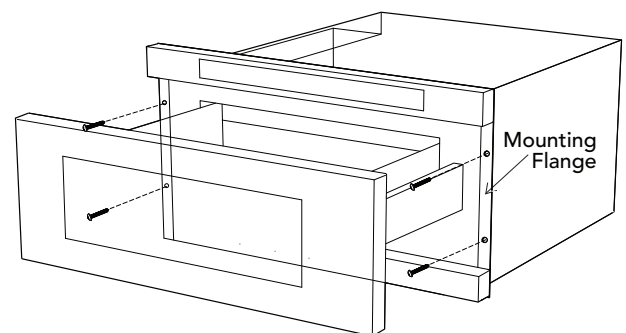

FIGURE 5A
3. Slide the drawer all the way until the mounting flange is flush with the face of the cabinet. See FIGURE 5A.
4. Open the drawer. Using the 4 holes on the drawer as a template, pre drill the cabinet using a ¹/₁₆" bit. See FIGURE 5A.